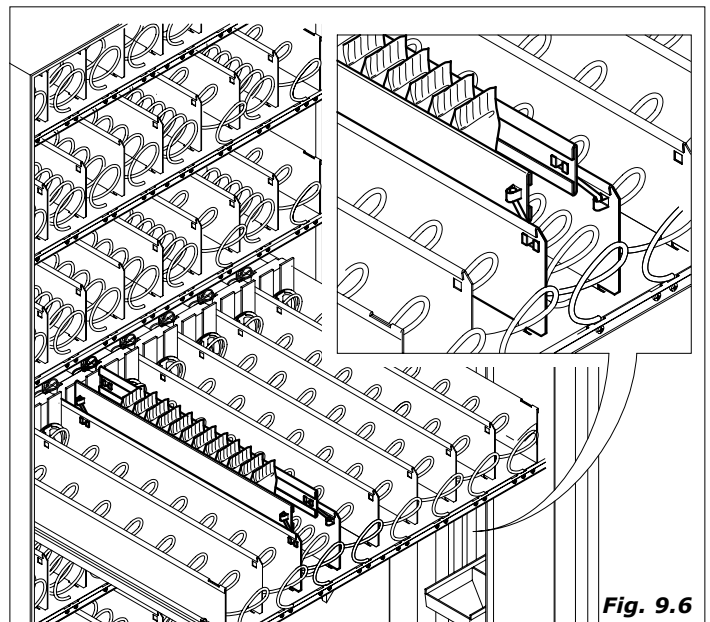

Fig. 9.6
- it is possible to introduce guides parallel to the spirals for narrow and high products (see fig.9.6) in order to reduce the space between the product and the walls of the section.